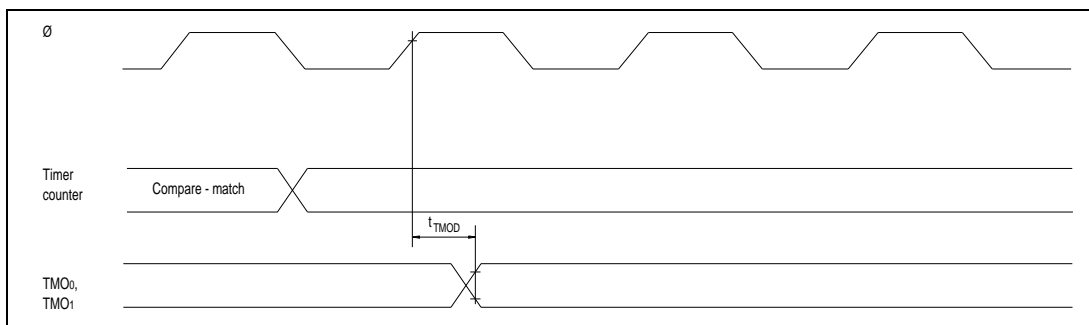

Figure 16-12. 8-Bit Timer Output Timing
16.3.4 8-Bit Timer Timing	Figures 16-12 to 16-14